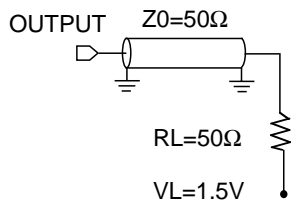
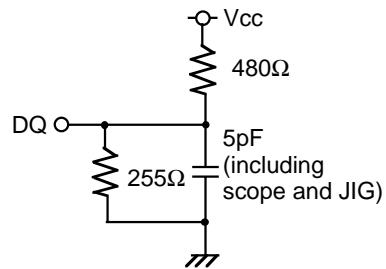

Fig.1 Output load
Fig.2 Output load for t_{en}, t_{dis}
(1) MEASUREMENT CONDITION
- Output loads Fig1, Fig2
5. Transition is measured $\pm 500\text{mv}$ from steady state voltage with specified loading in Figure 2.